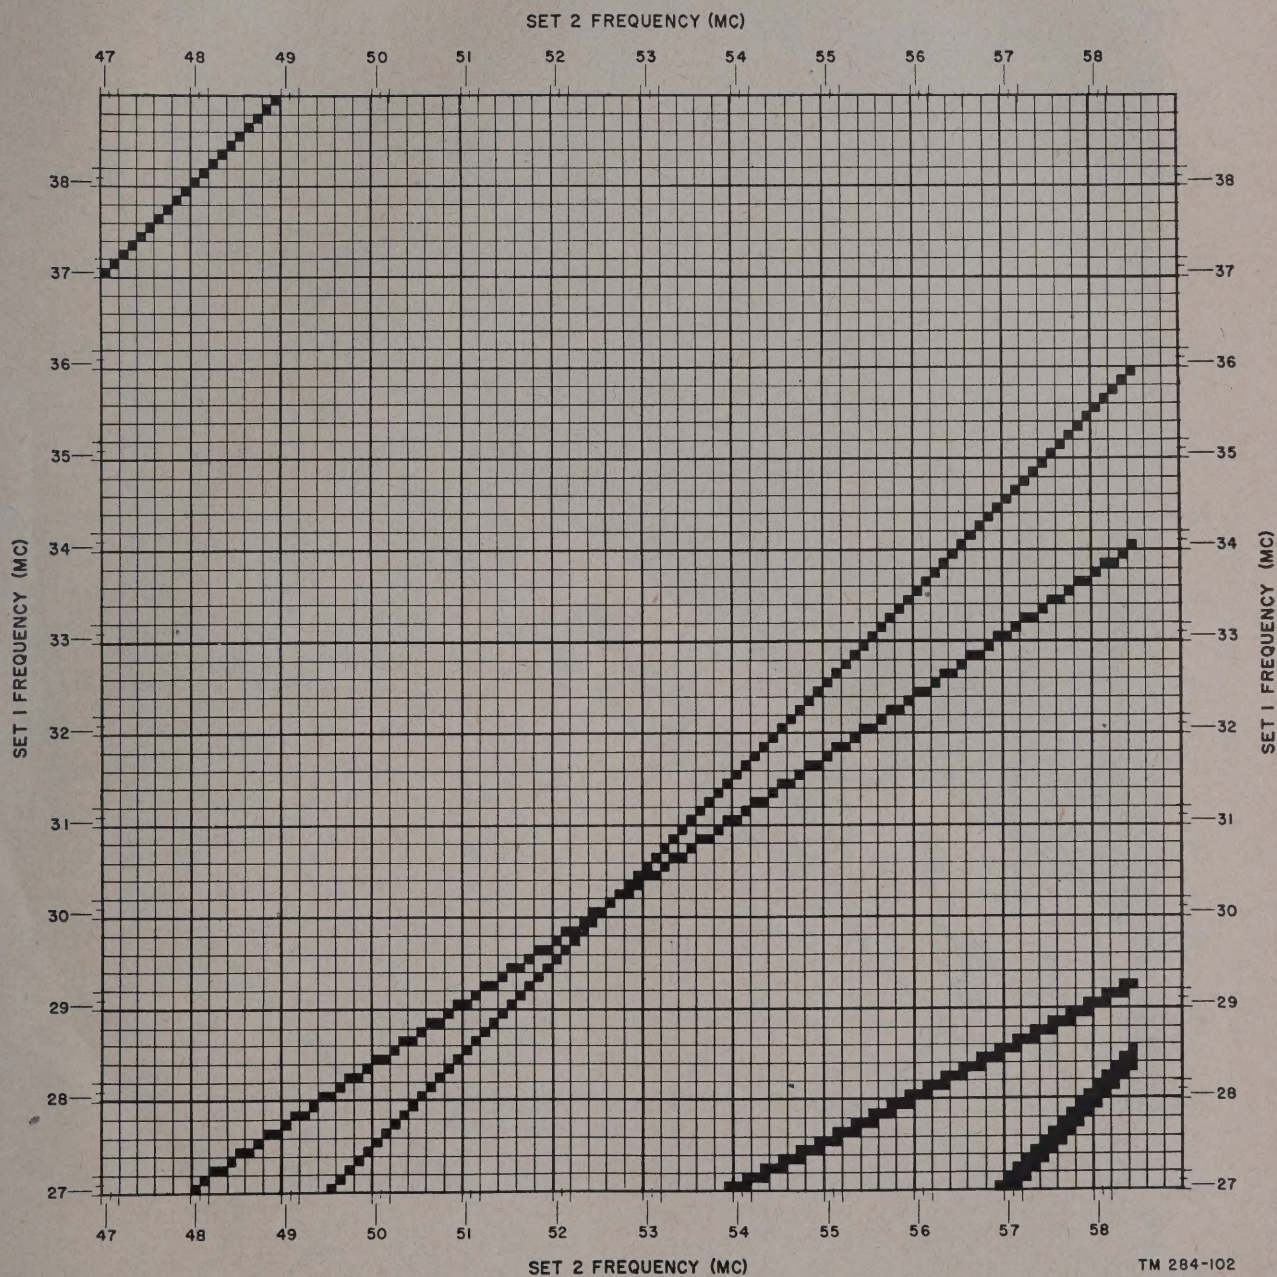

Figure 53. Chart showing interference between transmitter of Receiver-Transmitter RT-67/GRC and receiver of Receiver-Transmitter RT-70/GRC.
c. *Use of Charts.* To illustrate the use of the charts, assume that Set 1 is to be used for push-to-talk operation at 28 mc (in Radio Sets AN/GRC-5 or -6) and Set 2 is to be used for monitoring at 49.5 mc. Reference to figure 53 reveals that the intersection of the 28-mc squares (set 1 transmitting) and the 49.5-mc squares (Set 2 receiving) is a filled-in square. Those particular frequencies, therefore, cannot be used simultaneously. If the transmitting frequency is changed to 28.1 mc, however, the intersection is a blank square. Therefore, monitoring at 49.5 mc on Set 2, with push-to-talk operation at 28.1 mc on Set 1, is possible without interference.